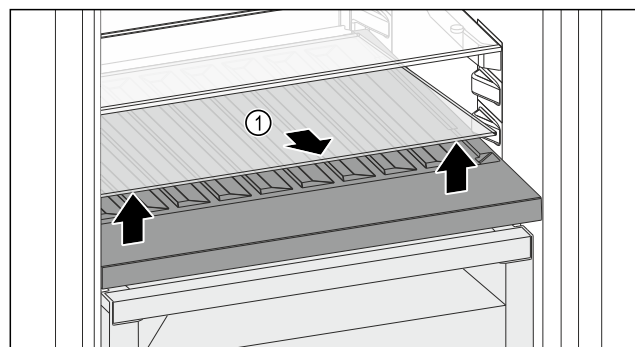

Fig. 78
- ▶ Lift the glass shelf Fig. 78 (1) at the front and remove.
- ▶ Store the glass shelf Fig. 78 (1) in a safe place outside the appliance.